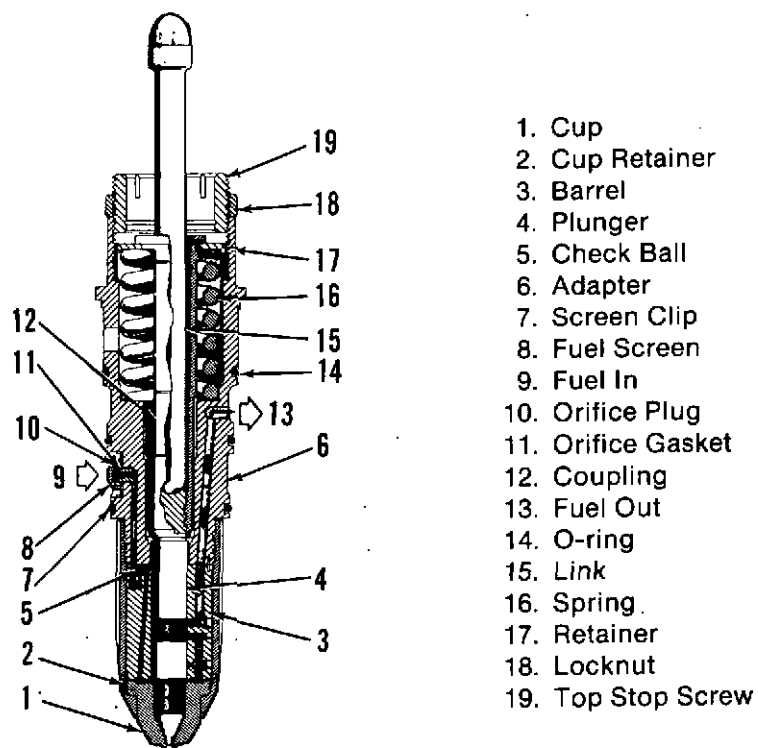

Fig. 1-1. (FWC27). PT (type D) Top Stop Injector cross-section
In Fig. 1-1, the parts in adapter (14) are the plunger return spring (12), adjustable orifice plug (6), orifice plug gasket (7), fuel screen (5) and screen retainer (4). The adapter has O-ring seals (15) on the outside, which seal against the head to form the fuel inlet and drain passages. Fuel enters through the adjustable orifice plug (6) and flows to the barrel (18), past the check ball (3) to the cup-to-barrel passage, then up to the metering orifice hole where it is metered into the cup (1). In the direct fuel feed barrels, the fuel goes directly from the check ball to the metering orifice hole. Fuel not used circulates past the metering orifice hole, around the plunger and out the drain orifice passage while the plunger is seated in the cup. The cup, adapter and barrel are held in the assembled position by the cup retainer (2).
The top stop injector parts are the same as the standard PT (type D) except the adapter (14, Fig. 1-1) is longer to accommodate the stop. The plunger coupling top is smaller, allowing it to pass through the stop screw. The injector spring retainer (11), adjustable stop screw (9) and stop screw locknut (10) are parts required only for top stop injectors.